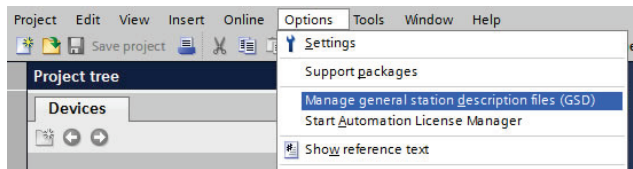

Figure 79: Install GSD File Menu Option
1. Open the TIA Portal project. Navigate to **Options...Manage general station description files (GSD)** as shown in Figure 79.